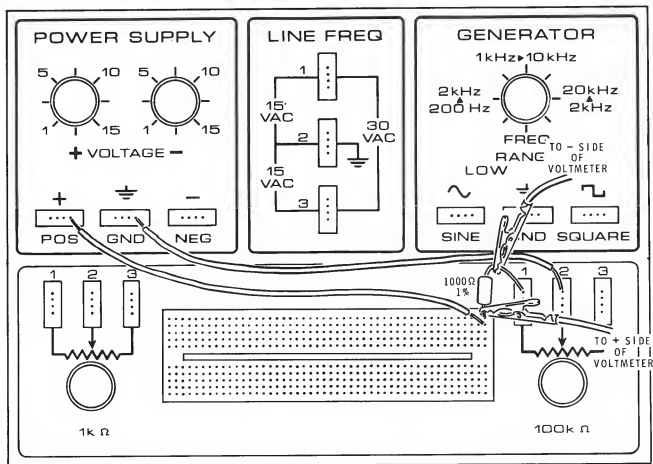

Figure 1-89
15. If your meter does not have current scales, construct the circuit shown in Figure 1-89. Here, the 1000 ohm 1 percent resistor and the voltmeter form a makeshift ammeter. Remember, the 0-1 volt scale is read as a 0-1 mA scale.